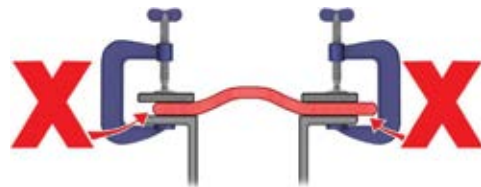

Fig. 4
- Starting at the middle hole of the corner clamp bar section, drill one hole through the expansion joint material, using the clamp bar and duct flange as templates. **It is very important** that the g-clamps (on both sides of the hole) hold the material securely otherwise the fabric may rotate with the drill, resulting in tearing (**See: Fig. 4**). Insert the bolt from the clamp bar side and tighten loosely. Working along the clamp bar, drill through the flange and clamp bar, inserting bolts from the clamp bar side and tightening the bolts loosely as you go, until all the bolts are in place in the first corner clamp bar section.